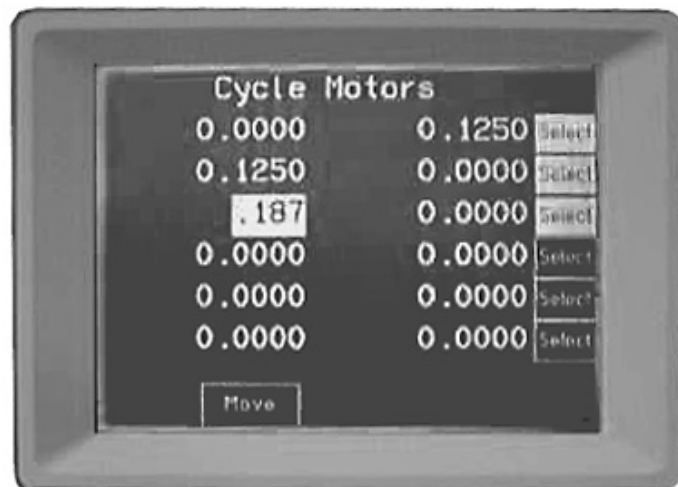

Figure 1.10: Cycle Motors Screen
2. When the user presses the **CYCLE** button from the **MOVE MENU** screen, a **CYCLE MOTORS** screen displays. The user presses the axis button and types the required parameters from the numeric keypad on the front panel, and presses the <ENTER> key. **NOTE:** The parameters are displayed in the display window as they are typed. The ESP7000 changes the parameters on the **CYCLE MOTORS** screen after the Enter key is pressed (See example in **Figure 1.10**).